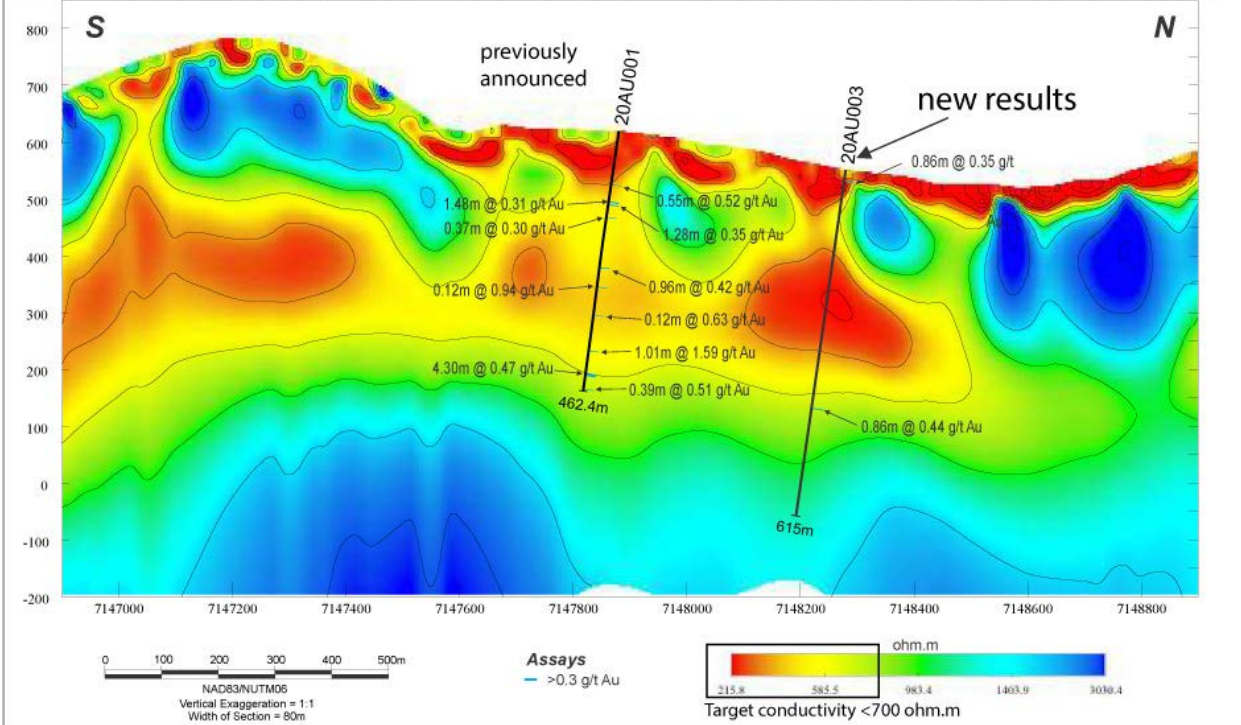

Figure 3 Cross section with assay results from 20AU001 and 20AU004 - Aurora Prospect, West Pogo Block
- **Assays from Aurora drill holes 20AU03 and 20AU04** have indicated minor gold mineralisation is present in the system as detailed in figure 3 and 4. The results will assist in vectoring in on additional targets.